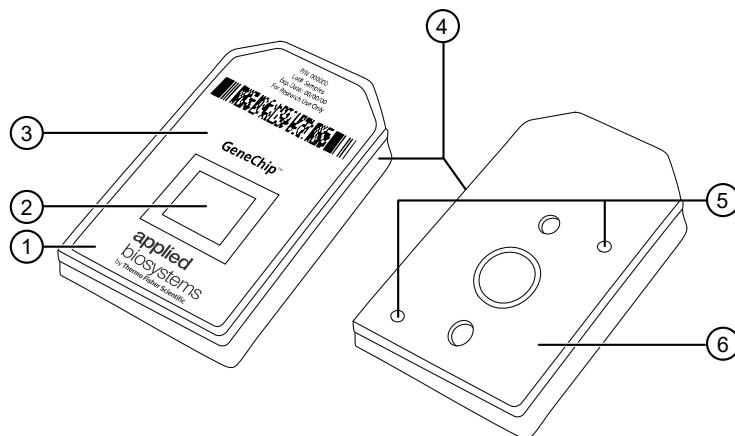

Figure 4 GeneChip™ cartridge array.
- b. Inject the appropriate amount (see Table 19) of the specific sample through one of the septa on the back of the cartridge array see (Figure 4).